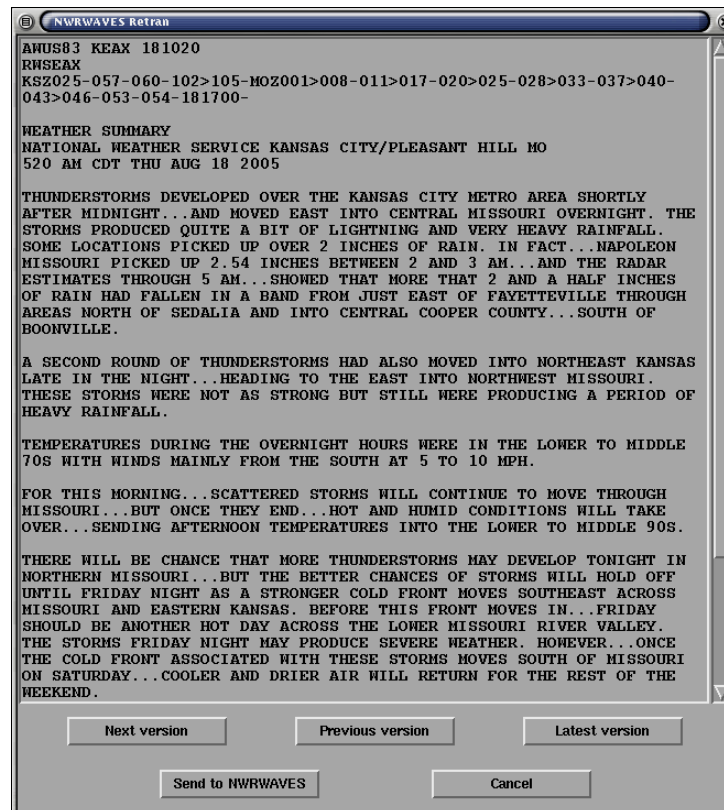

Figure 11 – NRRWAVES Retransmit product GUI interface
- c. **Regenerate a BMH message** – Allows a user to call an AWIPS PIL from the text database and reprocess the product through the NWRWAVES formatter. When this option is selected, the user is prompted to enter an AWIPS product identifier then click 'OK'. The latest version of the product will appear in the 'Regenerate Product' GUI (Figure 11). Sites can toggle between database versions of the product type by using the "Previous Version" or "Latest Version" buttons. Once you have the product you wish to re-transmit in the viewer, click the "Send to NWRWAVES" button to re-process this product.